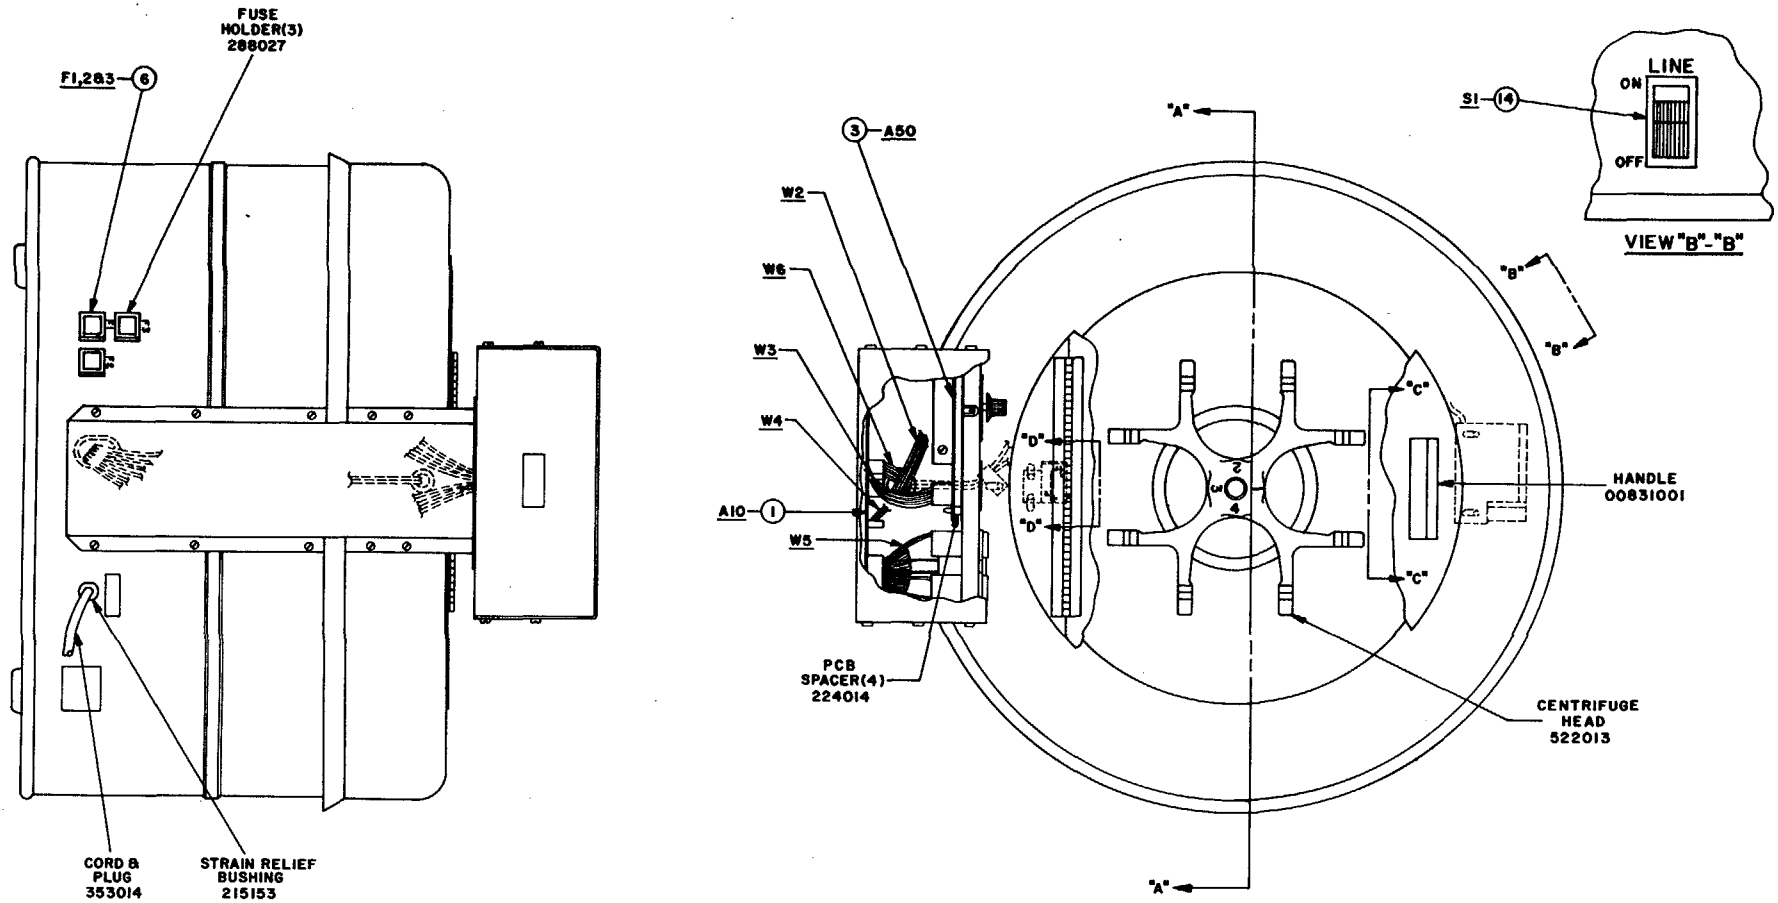

FIGURE 5A. ASSEMBLY DRAWING (REAR AND TOP VIEWS)
To replace parts in the control housing assembly, remove the six (6) housing cover screws and remove cover. Refer to Figure 5A and Parts List to determine which parts are located in the control housing assembly.